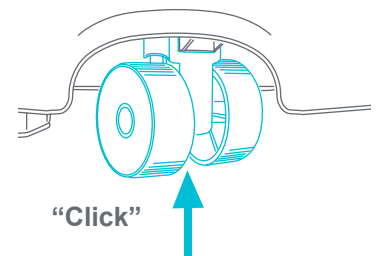

Fig. 7b
- Push the wheel upward until it clicks into the base (Fig. 7b). Repeat for the other side.